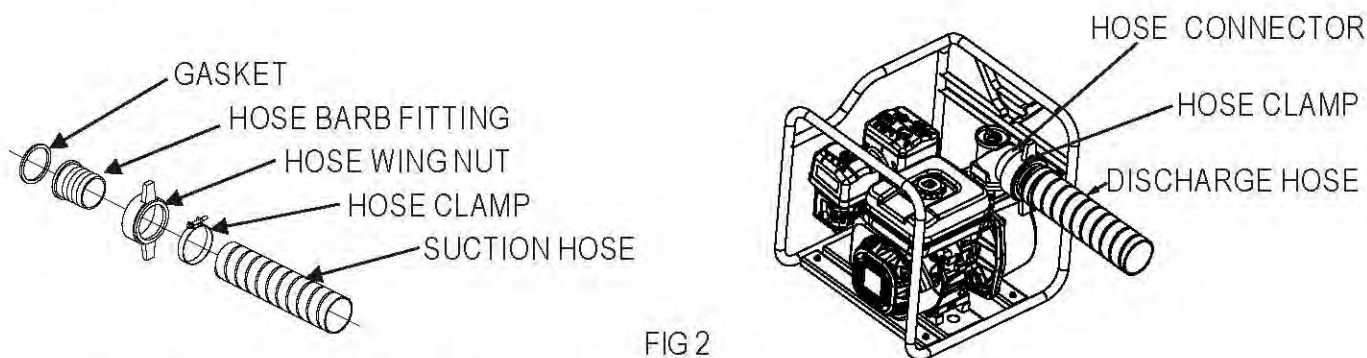

FIG 2
Discharge Hose Installtion (See Fig 2)
- At the pump's Discharge Port connect the gasket, hose barb fitting, hose wing nut, hose clamp, and discharge hose as shown in figure 2.